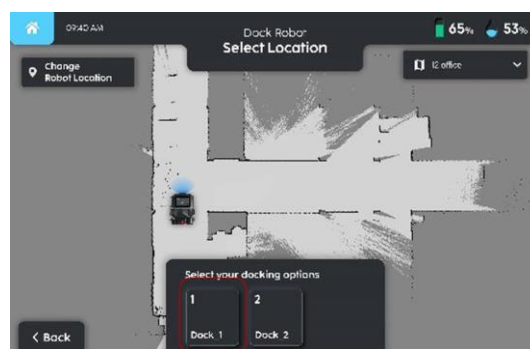

FIGURE 12-9
2. Once Robot is localized select the docking station for docking (Fig. 12-9).